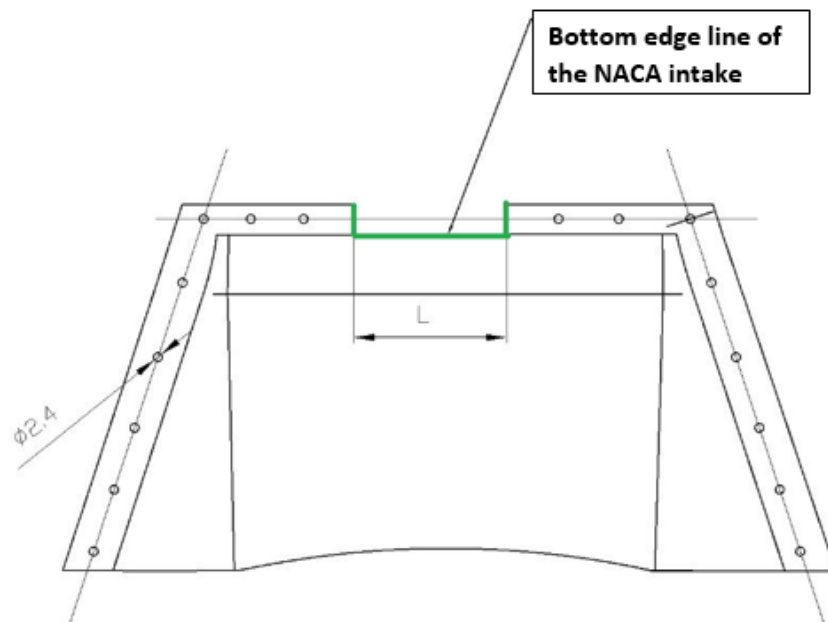
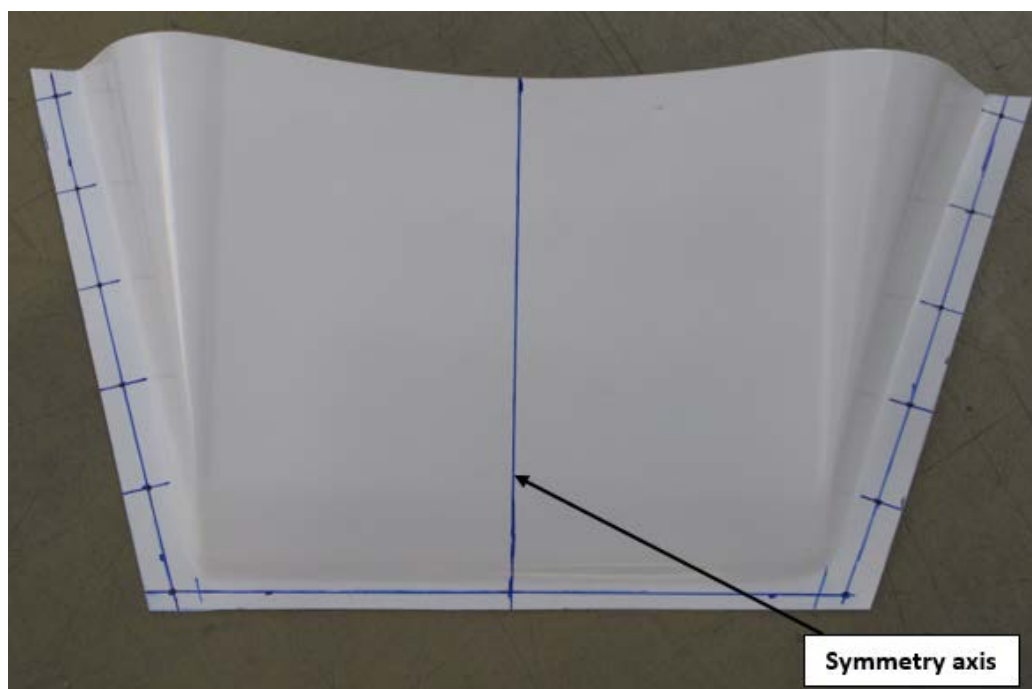

Figure 3: Top view of the new cooling exhaust SE0563N – sketch
Figure 4: New cooling exhaust SE0563N
8. Draw the longitudinal axis of symmetry on the outside of the new cooling exhaust SE0563N (see Fig. 4) and draw the line of the NACA intake bottom edge (see Fig. 3, 9, 10, 11).
The cut-out for the NACA intake made in the supplied new cooling exhaust is purposely made with the addition for matching. Therefore, the bottom edge of the cut-out in the supplied new cooling exhaust is not in line with the bottom edge of the NACA intake shown in Figure 3 (see also the note in Fig. 3).
9. Set the new cooling exhaust on the outer surface of the engine lower cowling and on the line of the NACA intake lower edge (see the symmetry axis marked according to the article 5), fix the position by the paper tape. Drill six holes \varnothing 2,4 mm (use cleco fasteners) in the engine lower cowling according to the holes made in the new cooling exhaust and deburr the holes. Mark the area for the NACA intake on the new cooling exhaust (see Fig. 3, 9, 10).
11. Mark and then make the cut-out in the engine lower cowling intended for installation of the new cooling exhaust SE0563N, make the cut-out for the NACA intake in the new cooling exhaust (see Fig. 3, 9, 11). Fit the new cooling exhaust with the engine lower cowling in such a way that the new cooling exhaust can be inserted from the inner side of the lower cowling. Insert the new cooling exhaust into the lower cowling and fix it by cleco fasteners. Drill the remaining 10 holes \varnothing 2,4 mm (use cleco fasteners) in the lower cowling according to the holes made in the new cooling exhaust. Remove the new cooling exhaust from the cowling, deburr the holes and grind the contact surfaces for gluing (see Fig. 3, 9).